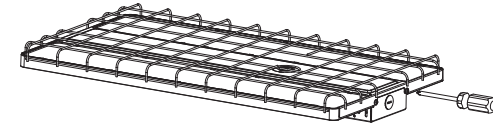

Figure 7
- Step1. Place the wire guard on the lamp and fix it with screws (Figure 7).